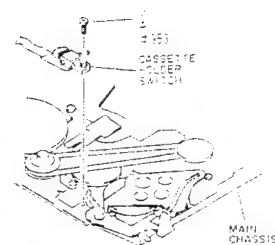

Fig. 2-73
- Main Chassis Bracket (1), (2)	3-4-1
- Supply Guide Roller (2), Supply Tape Guide, Loading Motor	3-6-4
- Loading Gear (2), (3), Mechanism State Switch	3-6-5
- 1) Remove one (1) screw holding the cassette holder switch. (See Fig. 2-73)